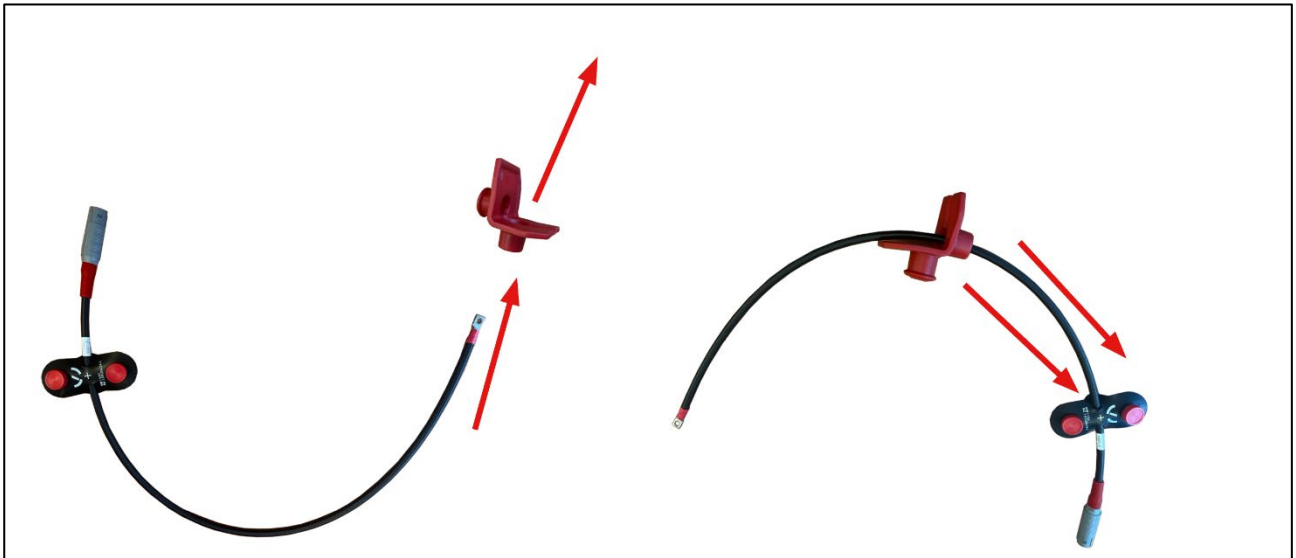

Figure 6: Attaching the terminal covers, HV+ terminal connection cable (red) example
1. Guide the terminal connection cable through the opening in the associated terminal cover as shown in Figure 6.